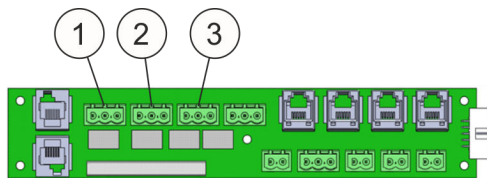

Fig. 66: Connecting terminals
- Connecting terminal for relay output „Pre-alarm” (Fig. 66 /1)
- Connecting terminal for relay output „Fire alarm” (Fig. 66 /2)
- Connecting terminal for relay output „Extinguishing” (Fig. 66 /3)